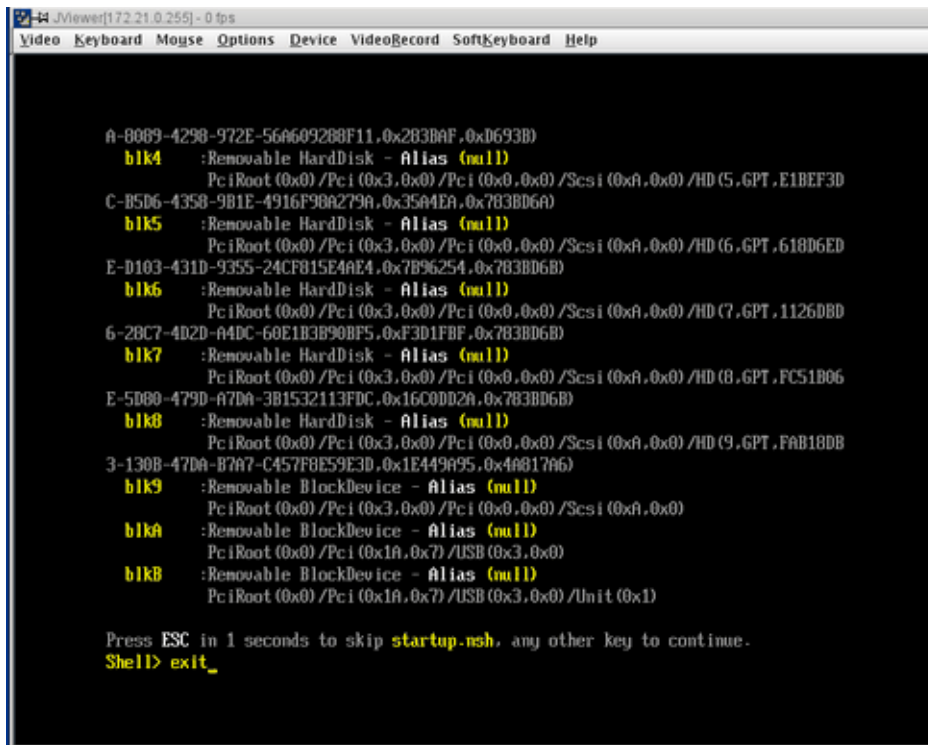

Figure 3-21 KVM JViewer Shell Prompt with `exit` Command Screen
2. When the Linux **Shell**> prompt appears enter `exit`, as shown in Figure 3-21 on page 58.